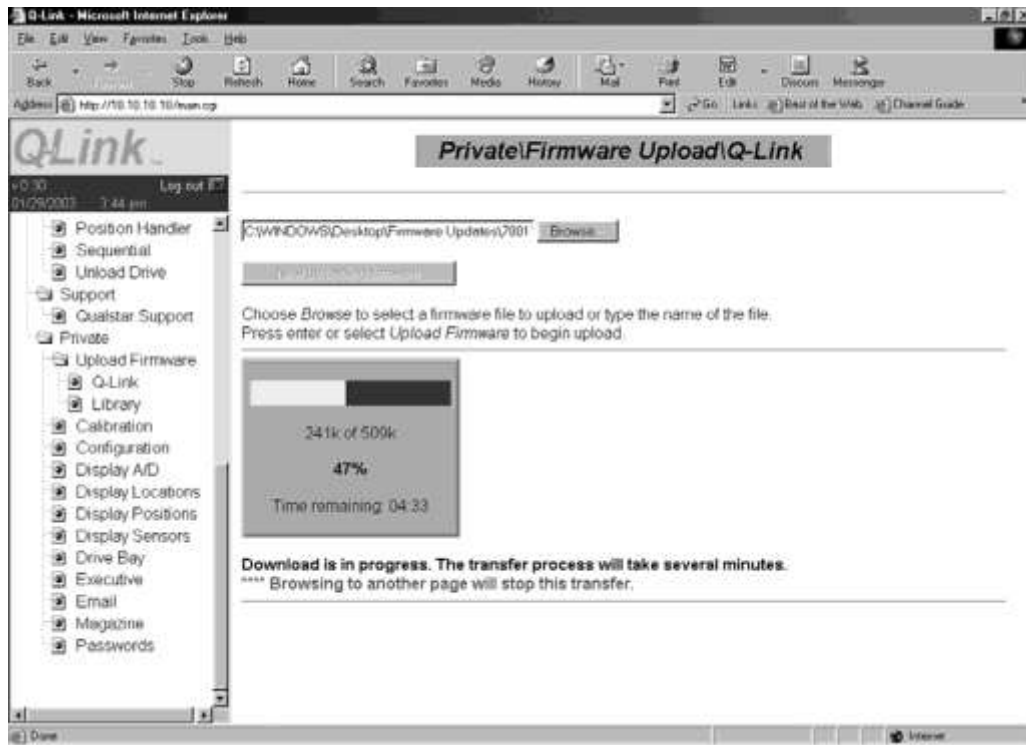
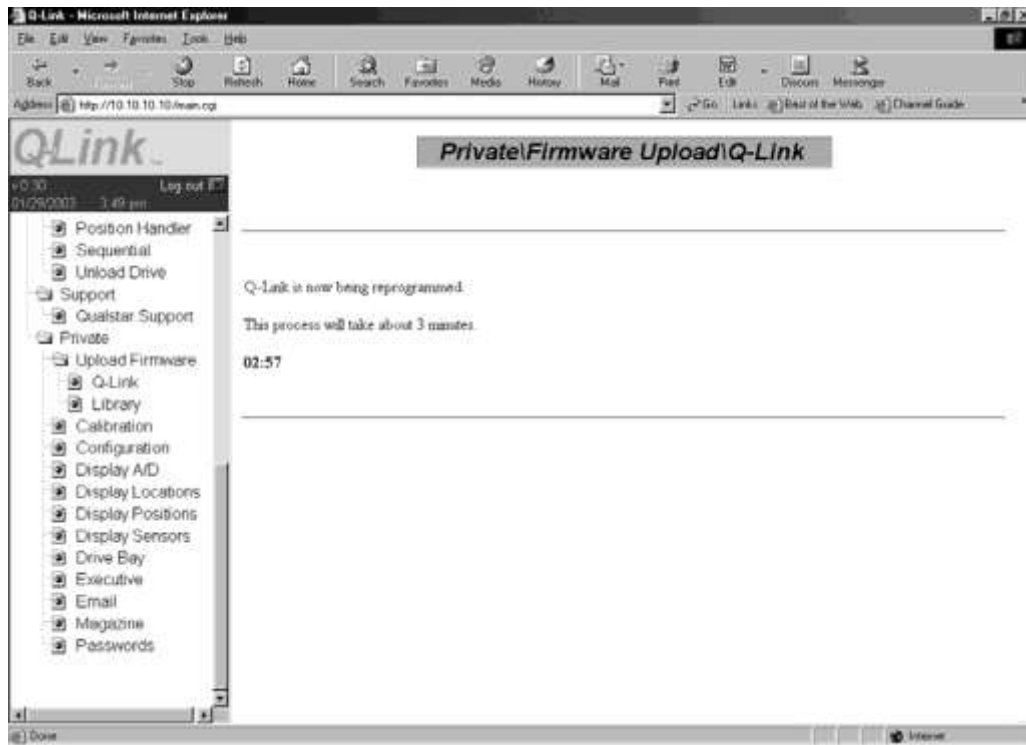

Figure 11-9 Sample of the Q-Link Firmware Upload Progress Screen
Figure 11-10 Sample of the Q-Link Firmware Reprogramming Progress Screen
4. Two different screens will appear as the uploading process proceeds. See Figure 11-9 and Figure 11-10.